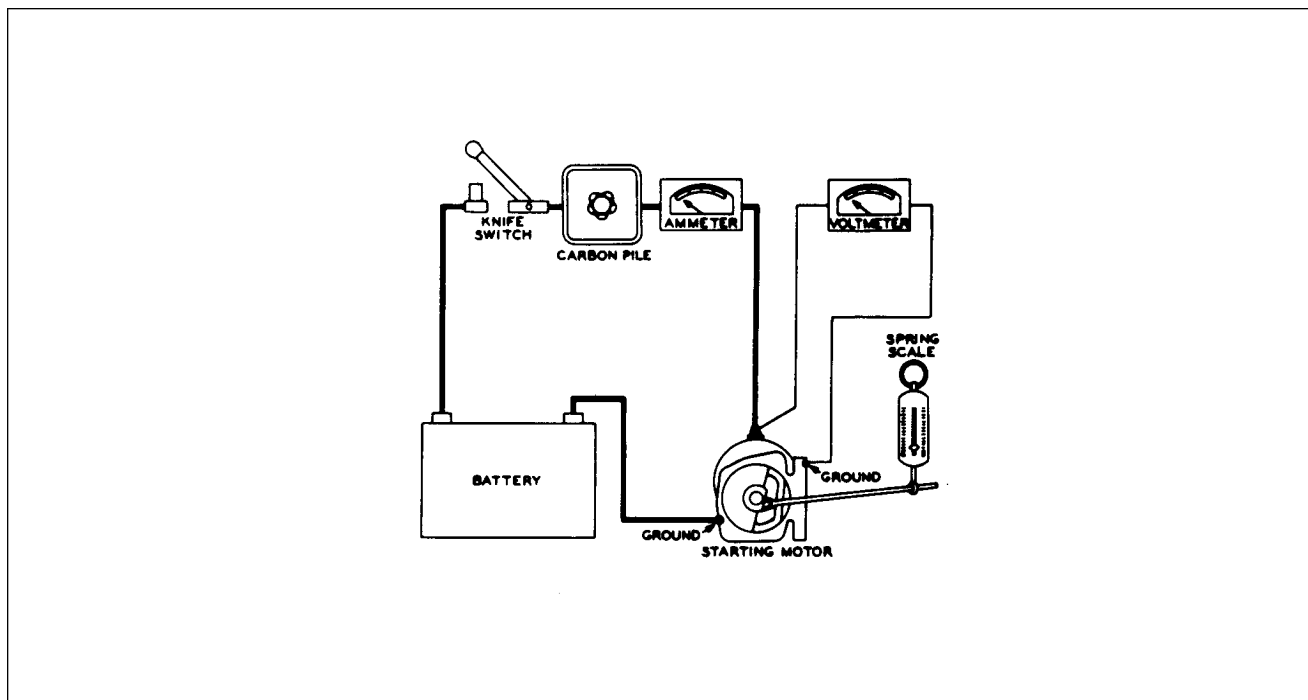

Figure 11-43. Stall - Torque Hook-Up
- b. If no difficulty is indicated in the above test, a stall torque test may be made to see if the starting motor is producing its rated cranking power. Make test connections as shown in Figure 11-43.